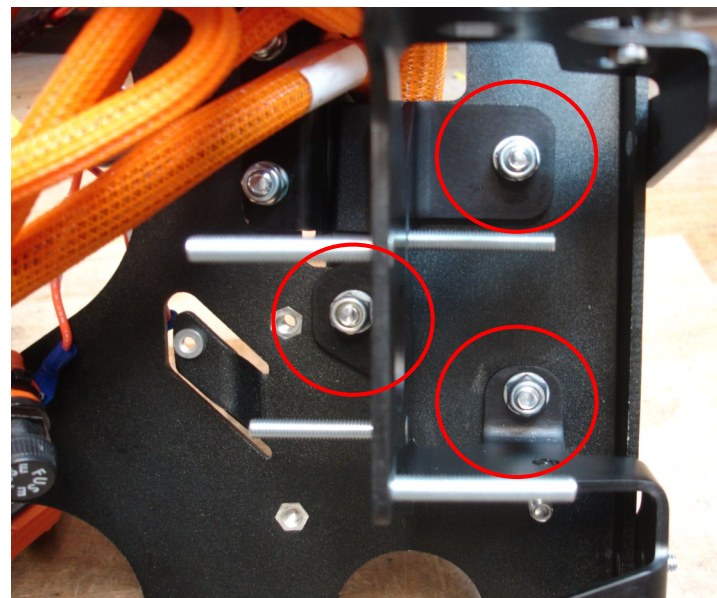

Figure 16
10. Mount BRACKET CONTACTOR AND AUX CHARGE (ITEM 13) to XMX MODULE SUPPORT PLATFORM (ITEM 8). Use (x3) M6 NUT and (x3) M6 WASHERS (ITEM 14 and 15). See FIGURE 16 and 17.